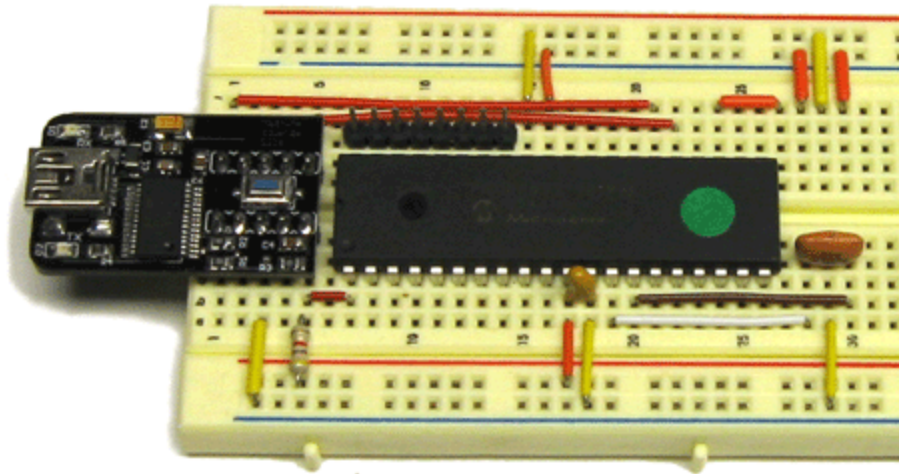

Figure 3. Inserting eight-pin straight connector.
**1. Insert the eight-pin straight connector into the XBoard, as shown in Figure 3. *NOTE: Be sure to align the pins with Ports B0 to B7, as shown.***